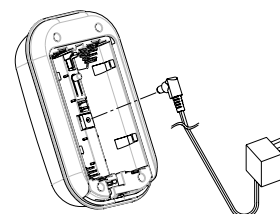

FIGURE 4
**Note:** You can use power adapter instead of batteries. The power adapter is an optional accessory. A cable track is set inside the unit for you to secure the power adapter. To install the power adapter, connect the plug of power adapter to the DC jack inside the unit. Route the cable along the cable track (FIGURE 4 & 5).